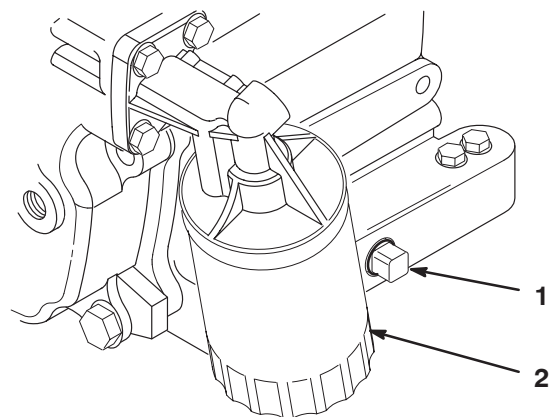

Figure 17
2. Remove the drain plug (Fig. 17) and let oil flow into a drain pan. When the oil stops, install the drain plug.
3. Remove the oil filter (Fig. 17). Apply a light coat of clean oil to the new filter gasket.